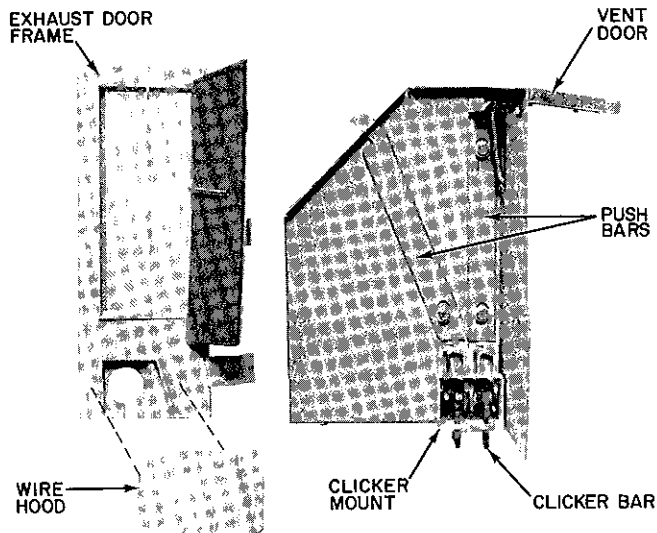

Fig. 31 — Vent Door/Wire Hood
- c Remove wire hood by removing 2 screws See Fig 31
- 35 **Vent Door** — See location of Vent Door in Fig 31
- c Cut interconnecting tubing and remove 2 screws securing condenser coil. Remove condenser orifice mounting screws (4)
- 44 **Vent and Exhaust Linkage** — See Vent and Exhaust Linkage in Fig 31
- f To remove push bars, remove screws and disassemble from discharge deck. See Fig 31